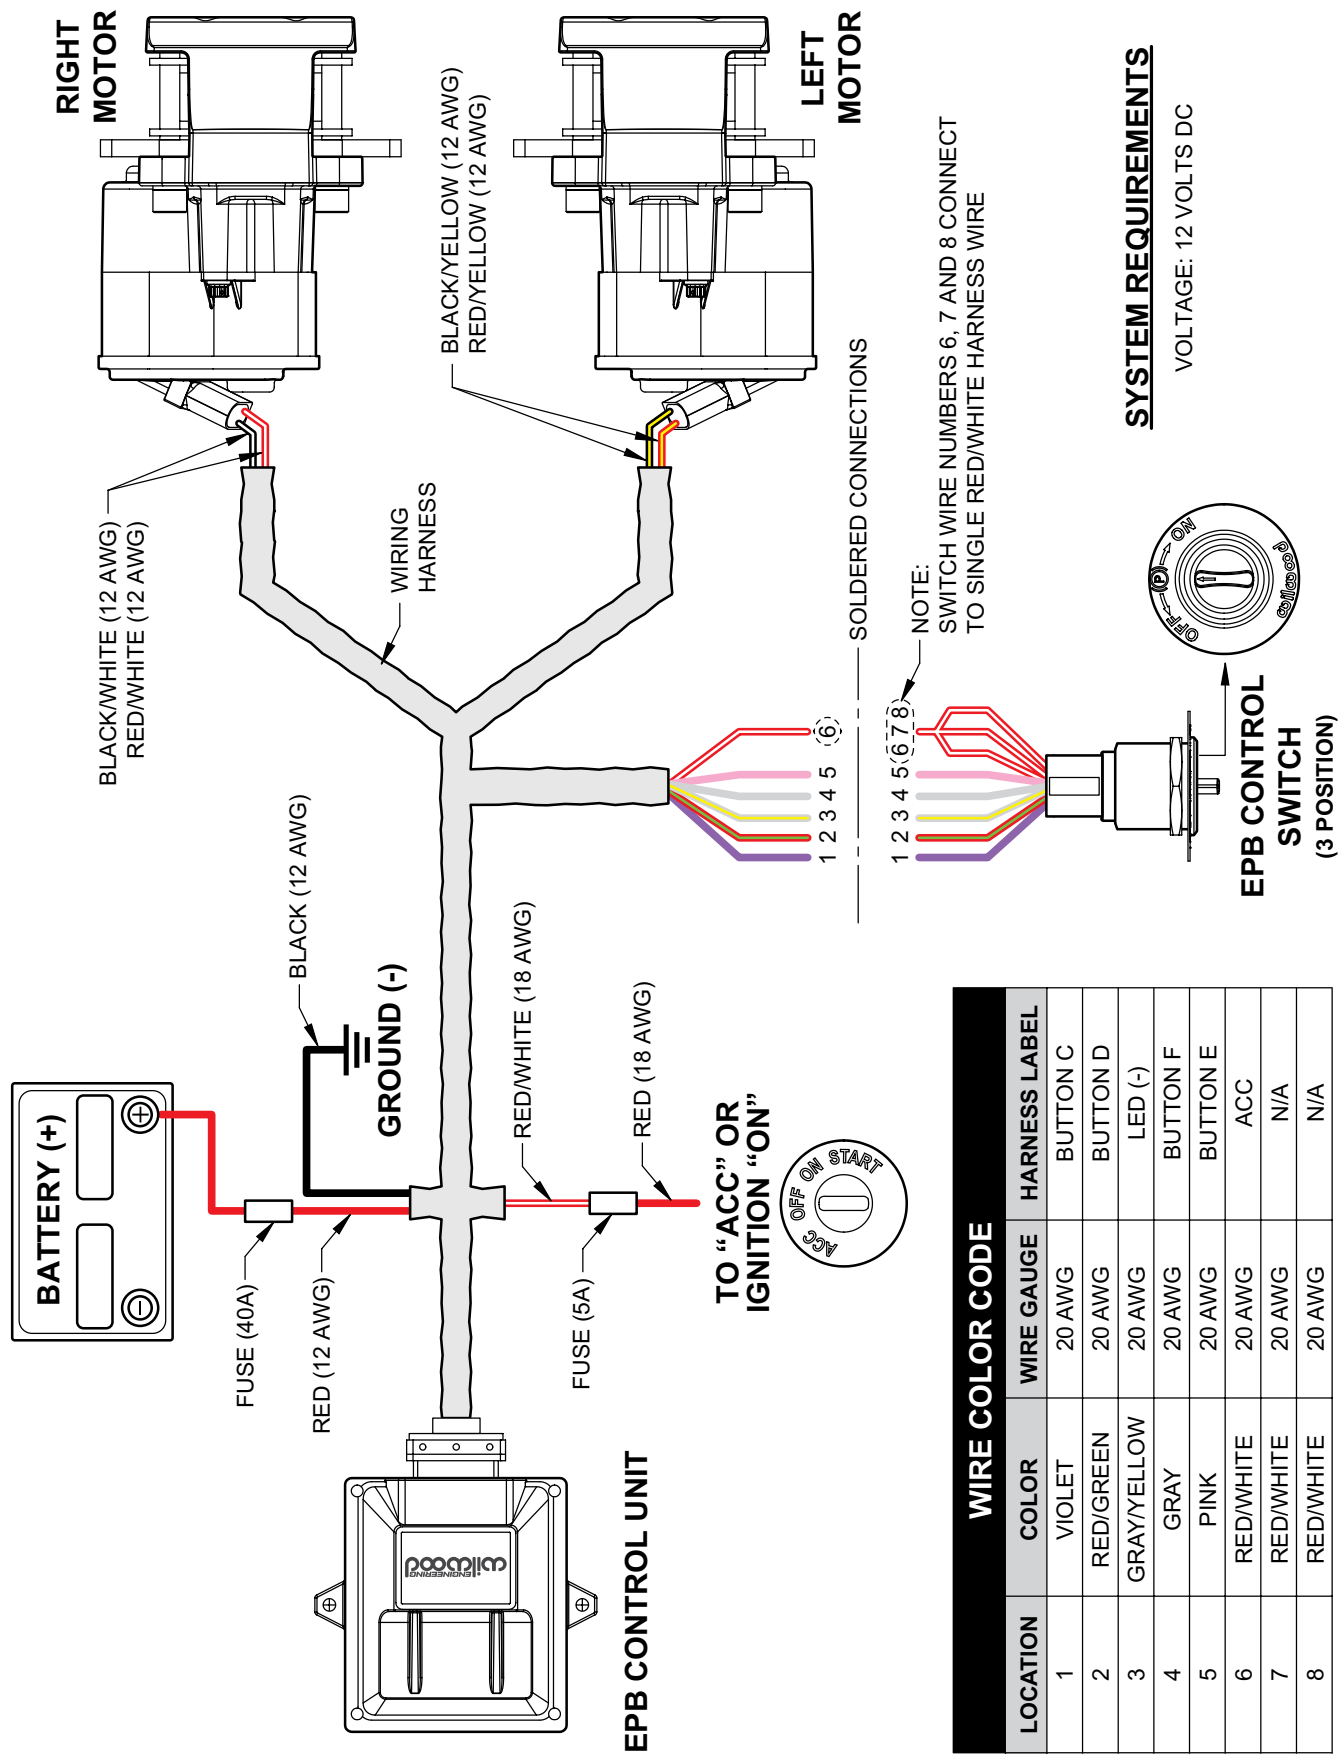

Figure 4. EPB Wiring Diagram
- **EPB WIRING HARNESS** - All wiring harness leads are labeled – refer to wiring diagram, Figure 4. Carefully route harness cables/wires to prevent contact with moving or rotating components and away from heat sources and pinch points. **CAUTION:** Avoid routing harness near alternator or ignition system components. **NOTE:** Wilwood EPB harness is designed for use in many different vehicle applications and it is the installer's responsibility to properly route cables/wires and ensure adequate clearance and retention for EPB components.
Wiring Installation - Refer to wiring diagram, Figure 4